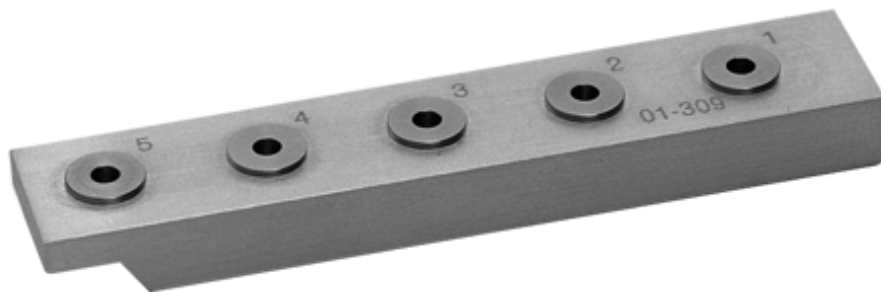

Figure 2-2. 01-309 Cable Assembling Fixture
6. Insert the cable into position 3 of the 01-309 fixture (Figure 2-2) until the outer conductor bottoms in the hole and the Teflon dielectric is protruding from the back of the fixture.